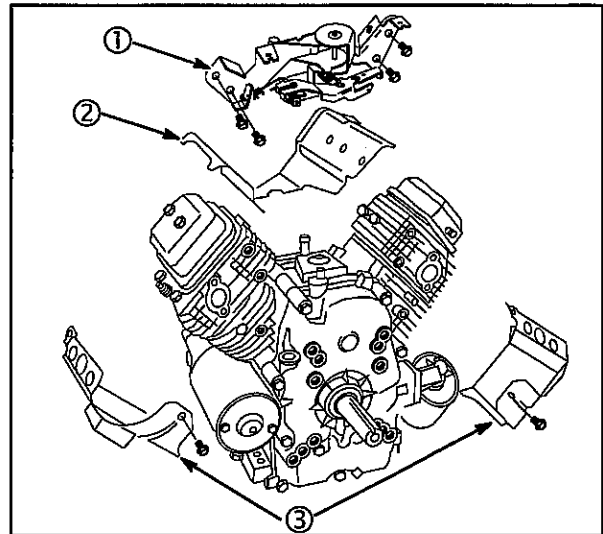

Fig. 12
1. Remove governor control bracket (1), **Fig. 12**.
2. Remove valley cover (2) and cylinder shields (3).